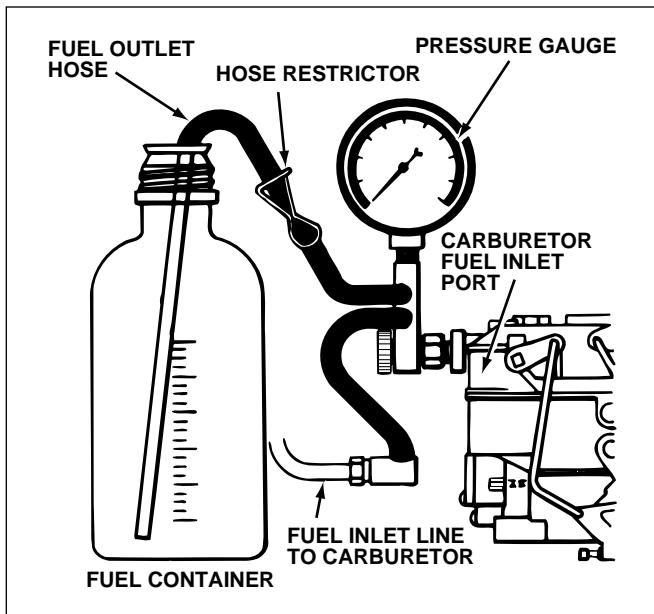

Fig. 5-2. Setup for performing a fuel pump volume test.
1. Disconnect the fuel supply line at the carburetor and attach a length of fuel hose, figure 5-2. If a fuel filter is used, do not remove it